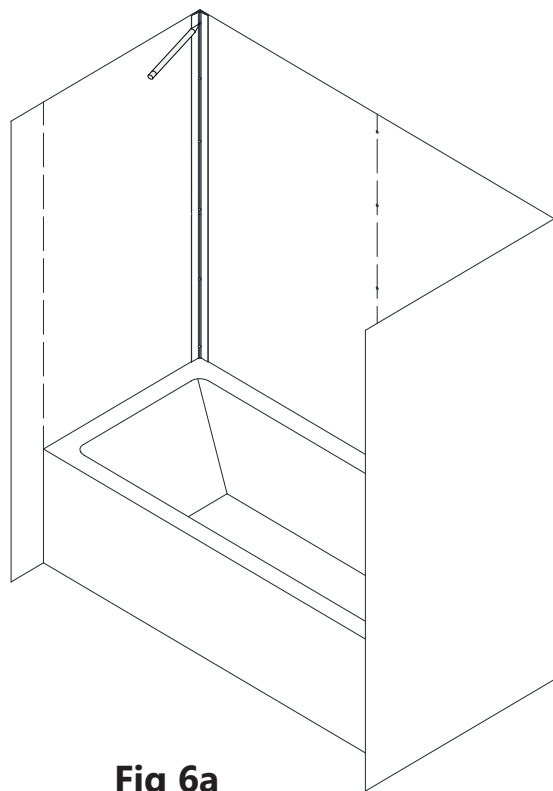
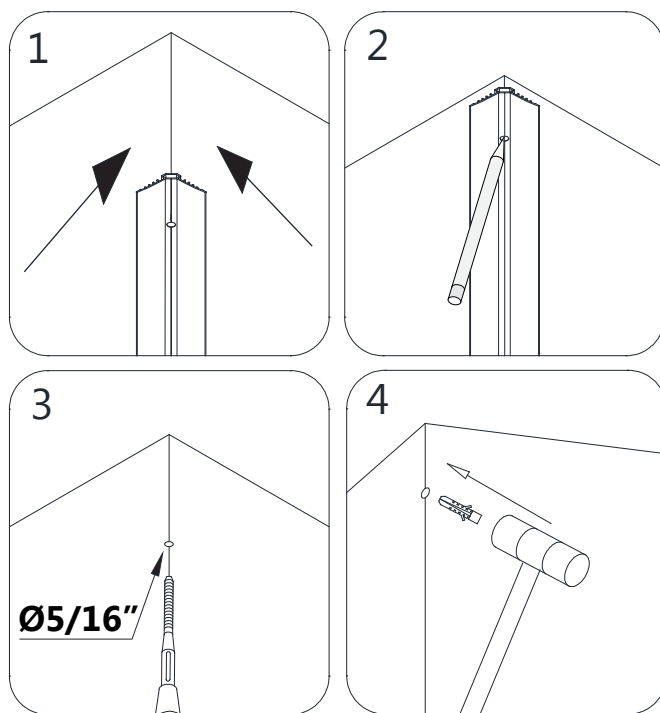

Fig 6a
Fig 6b
6. Place the **Corner Cover (#04)** to the corner of the wall and mark the drilling holes through the predrilled holes in the **Corner Cover (#04)**. Drill the holes using a **Ø5/16"** drill bit and insert the **Wall Anchors (#06)**. (**Fig 6a and Fig 6b**)